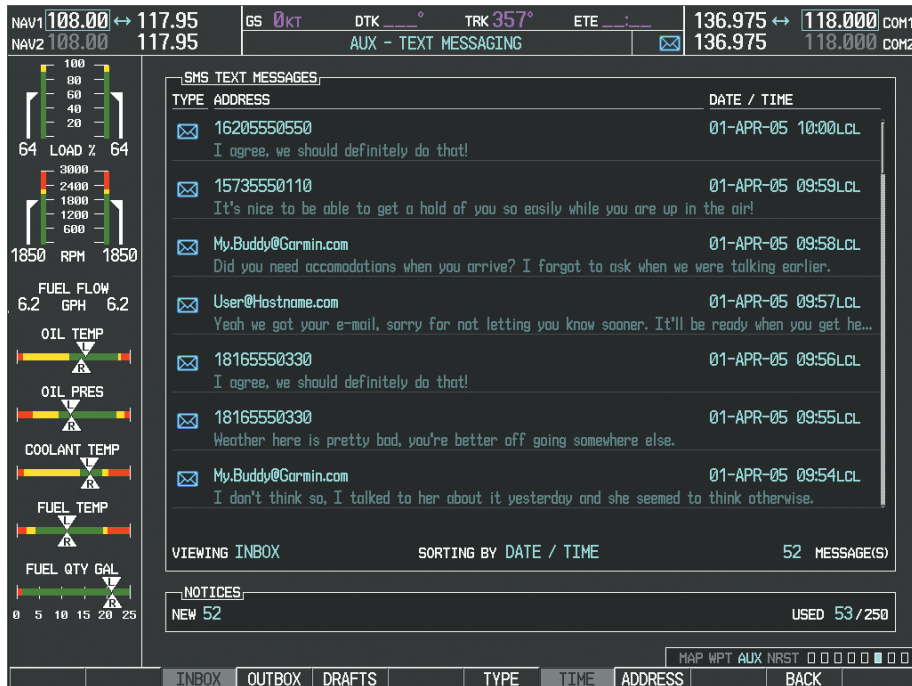

Figure 8-96 Text Message Inbox
While viewing the AUX-TEXT MESSAGING Page, press the **ARRANGE** Softkey, then press the **INBOX** Softkey (Figure 8-96).
While viewing the AUX-TEXT MESSAGING Page, press the **ARRANGE** Softkey, then press the **TIME** Softkey (Figure 8-96).
- 3) Press the **ENT** Key. The sorting selection is indicated at the bottom center of the list window (Figure 8-96).